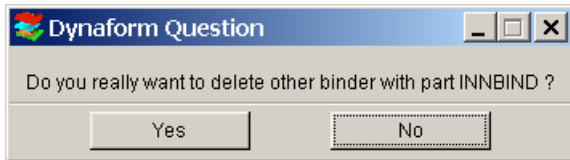

Figure 5.23
13. Click **No** to keep INNBIND (See Figure 5.23)